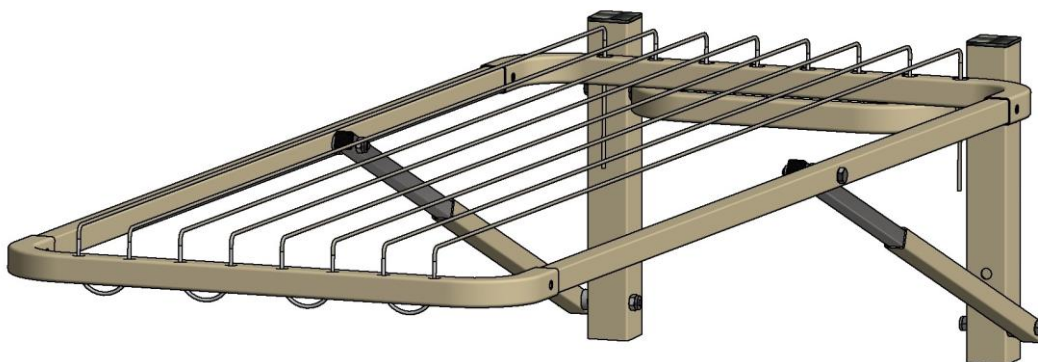

Figure 5 – Feeding the cord
- Feed the cord through the remaining holes as shown in Fig 5.